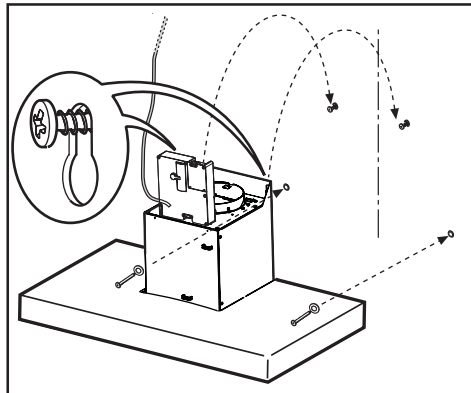

Fig. 11
- Introduce and screw the screws (and washers) up into the holes for the definitive fixing (COMPULSORY!!). Then, having checked the setting of the hood, **TIGHTEN ALL THE upper and lower SCREWS. Fig. 11**